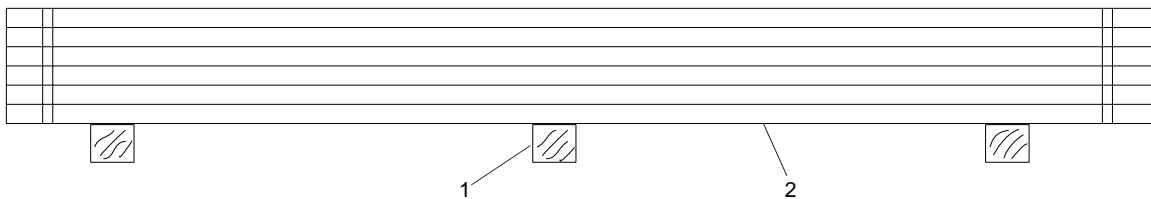

Figure 2. Stacking Deck Mats
4. Position three 4 in. X 4 in. wood beams (figure 2, item 1) on FC pierhead in an area where deck mats (figure 2, item 2) can be stacked.
5. Remove deck mat (figure 2, item 2) and stack on three 4 in. X 4 in. wood beams (figure 2, item 1).
6. Stack deck mats (figure 2, item 2) one on top of the other, six mats per stack.
7. Repeat above procedure for remaining deck mats (figure 2, item 2).